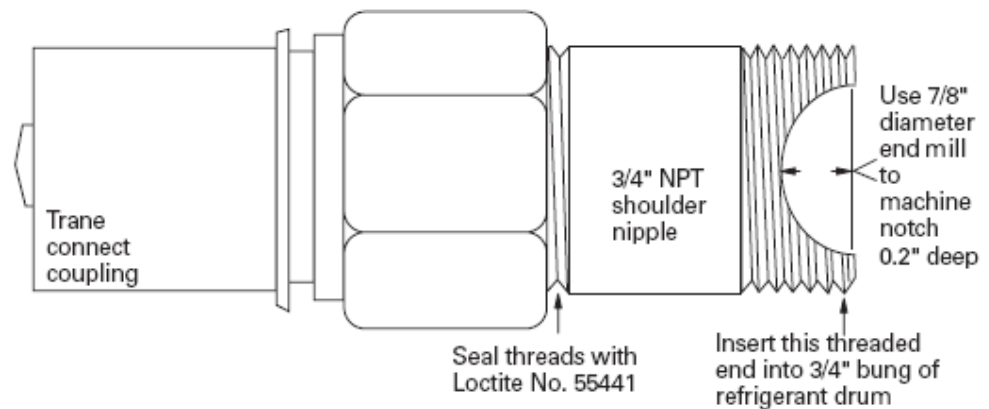

Figure 3. Charge Fitting For Drums
When charging from drums, use a fitting designed for use with the 3/4-inch center drum bung of 2-inch bung, Figure 3.
- c. Screw special 3/4-inch nipple with a 3/4-inch self-sealing male coupling into drum (Trane EBS Part Number 0172-0016-01). The special 3/4-inch nipple, Figure 3, will push out the metal seal and will keep the seal from plugging the feed.